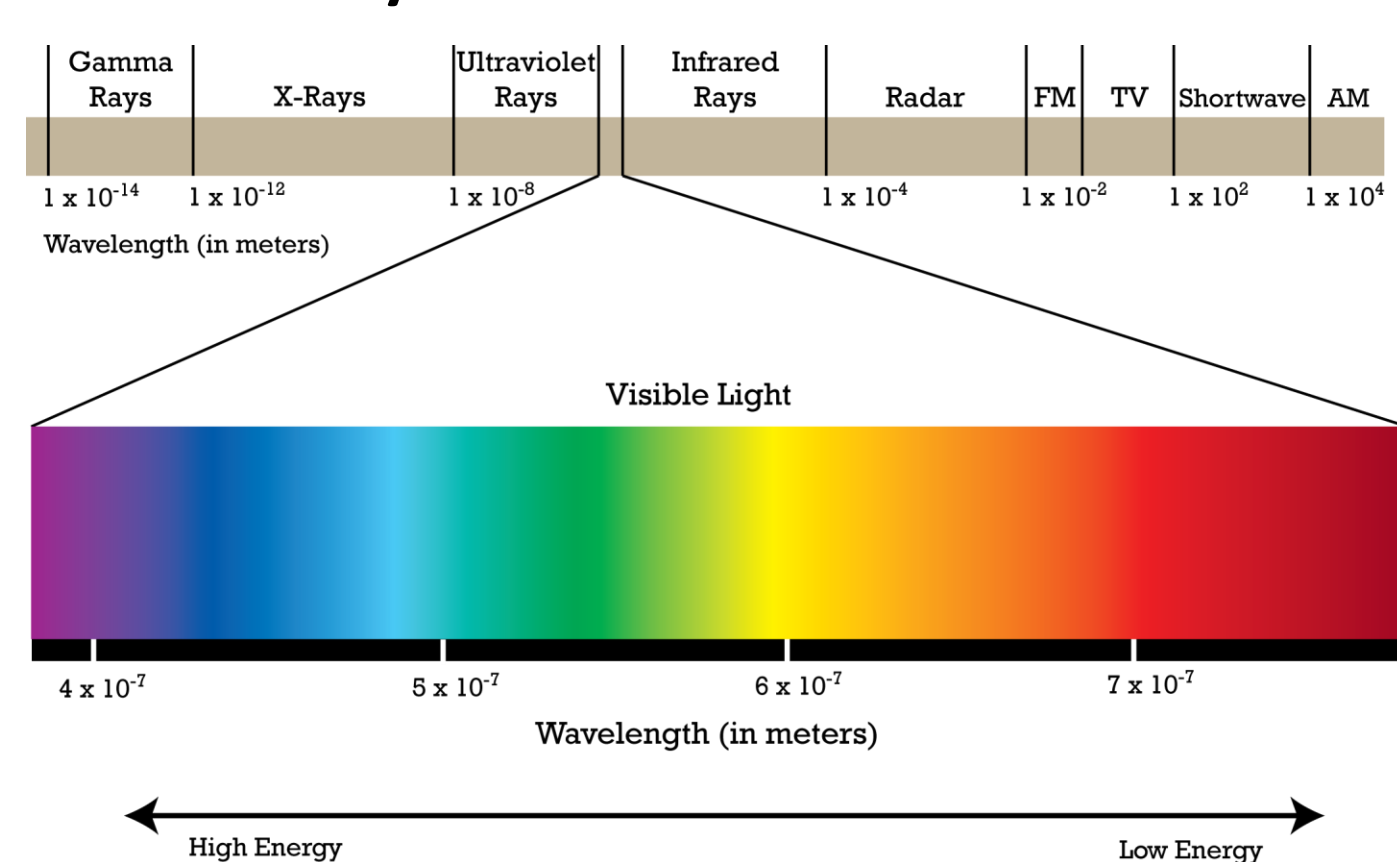

Fig. 1. Electromagnetic Spectrum
- Fig. 1: <http://www.pion.cz/en/article/electromagnetic-spectrum>